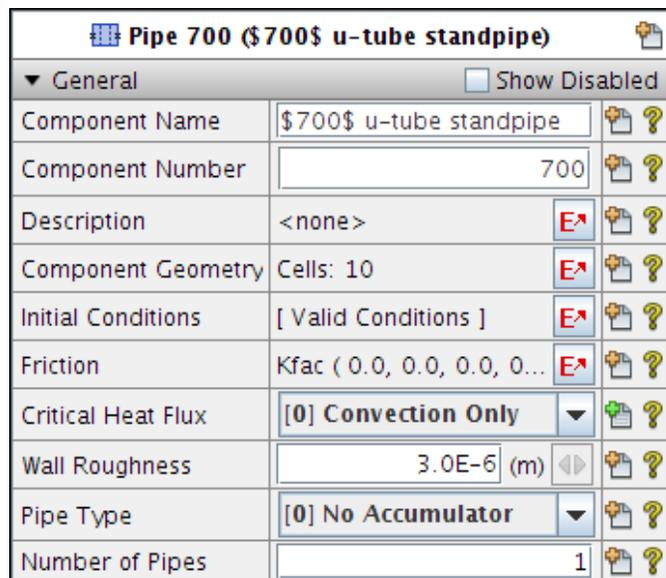

Figure 2.37. Property View Model Note Button
- The Properties View's **Model Note Viewer** button (to the right of the property view title) opens the note viewer for the currently selected objects (Pipe 700 in Figure 2.37, “Property View Model Note Button”). This is the same viewer used to display all notes. However, the **Category** will be set to **< Selected Components >** and it will display notes only for the object currently displayed in the property view.